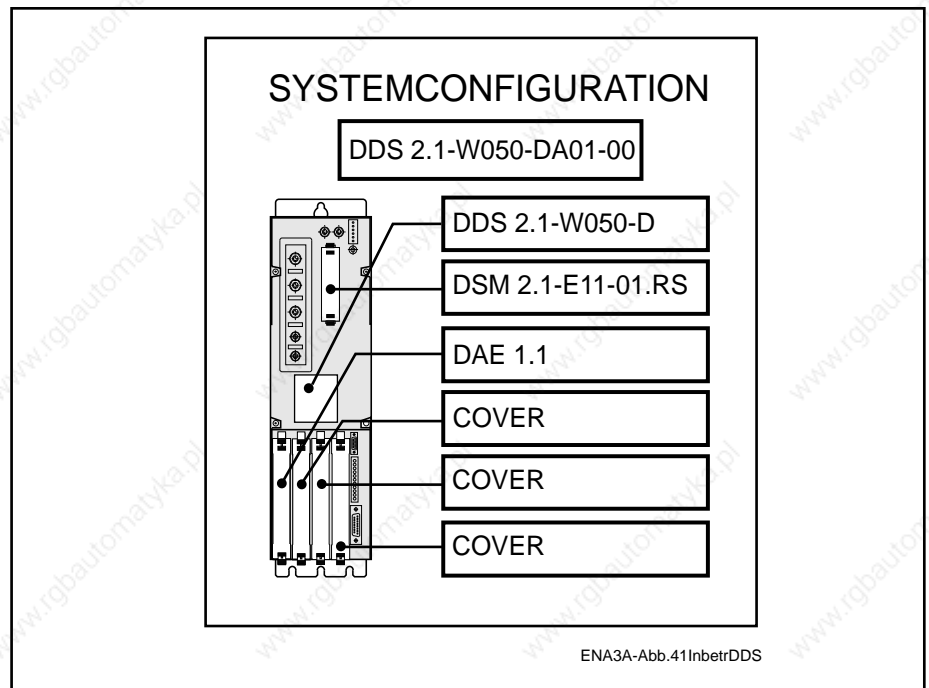

Fig. 58: Configuration rating plate
**Check the configuration of the drive controller (See Fig. 58):**